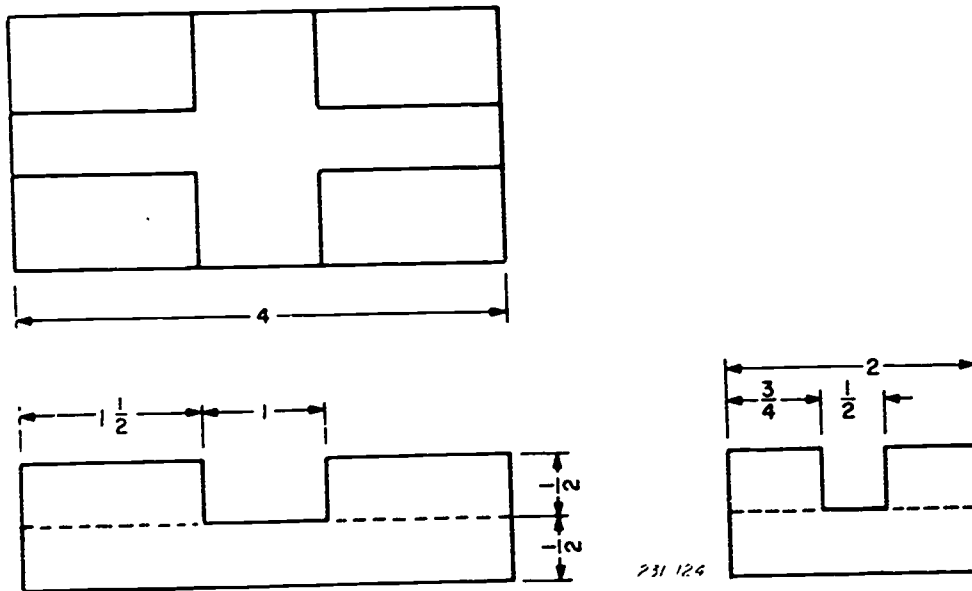

Figure 4-94. Dimensioning placement.
a. Place dimensions between views whenever possible (see fig. 4-94). If this is not possible, the next best position is on the outside of the views. When it is impossible to use either of these two positions, place the dimensions on the views themselves. If you place the dimension on the surface of a sectional view, omit the section lining around the numbers.
b. Dimensions must read from the bottom and right side of the sheet of paper unless the unidirectional system of dimensioning is used. This means that the dimensions are placed in the position shown in figure 4-94. As you can see, the horizontal dimensions run from left to right, and the vertical dimensions run upward. In the unidirectional system, all dimensions are placed horizontally.
c. Without duplicating or crowding, indicate as many dimensions as practicable on the principal view; that is, the view which best shows the characteristic contour of the object. This rule is demonstrated in figure 4-94, where width dimension is placed on the top view, the height dimensions of the features are placed on the front view, and the depth dimensions are placed on the side view. The dimensions apply to one view only; that is, with dimensions between views, the extension lines should be drawn from one view, not from both views.
This rule is also applied in figure 4-94. Notice that no dimensions are needed for the features on the right side of both front and side views because the other dimensions have already established these dimensions.
f. Place dimensions by either the aligned system or the unidirectional system. The aligned system of dimensioning is used in figure 4-94. In this system, the dimensions parallel